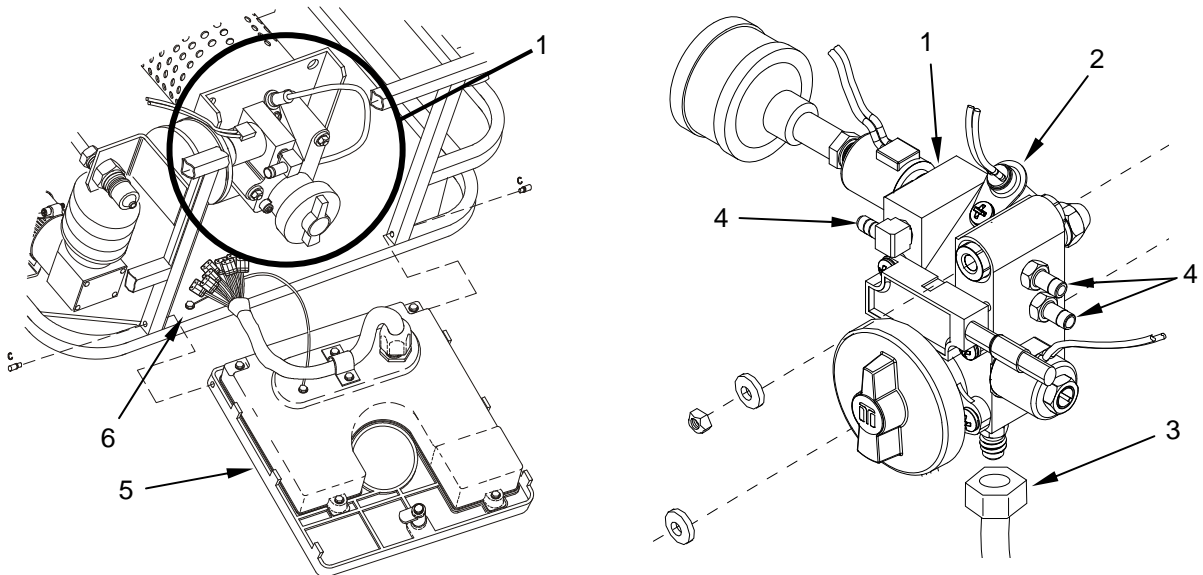

Figure 4. Remove/Install the Fuel Delivery Block Assembly.
The fuel delivery block assembly (Figure 4, Item 1) **MUST BE TEMPORARILY REMOVED** from the burner tube mounting shafts when replacing the igniter (Figure 4, Item 2), fuel line (Figure 4, Item 3), or air lines (Figure 4, Item 4).
- a. Open control panel (Figure 4, Item 5) for access to the fuel delivery block assembly (Figure 4, Item 1).
- b. Disconnect the fuel line (Figure 4, Item 3).
- c. Remove the ground screw (Figure 4, Item 6) with a suitable wrench.